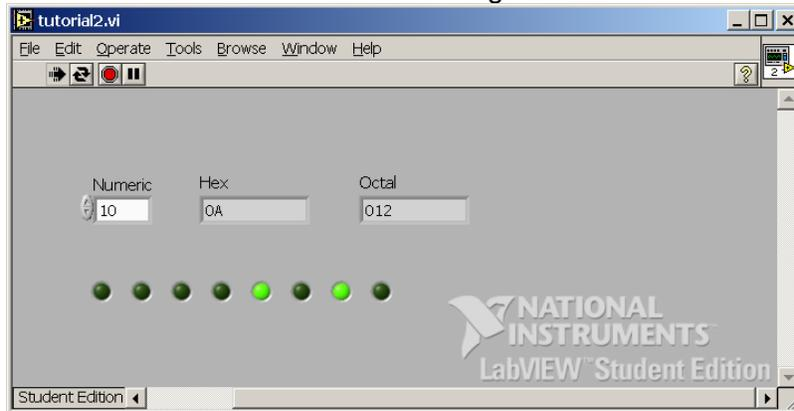

Figure 6
- Now, feel free to jump back into the Front Panel and select Run Continuously. You will notice that for the numeric values that you enter, your LED array will display the appropriate result similar to what is shown in Figure 6.